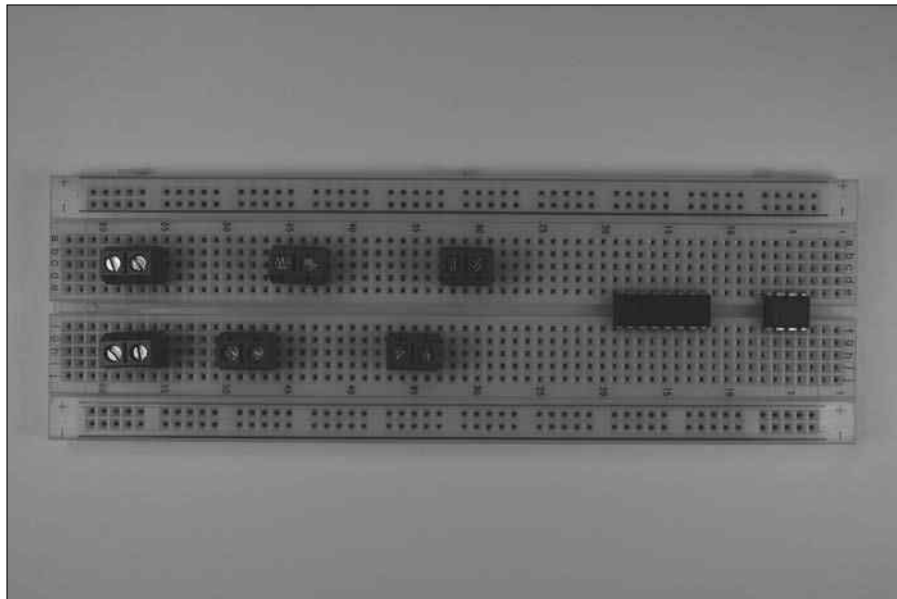

Figure 10-7:
1. **Place the LM555 IC, the LM4017 IC, and six terminal blocks on the breadboard, as shown in Figure 10-7.**